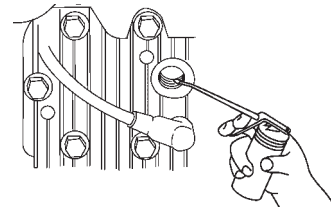

Figure 28
3. Using an oil can, add about one tablespoon of oil to the crankcase through the spark plug hole (Fig. 28).